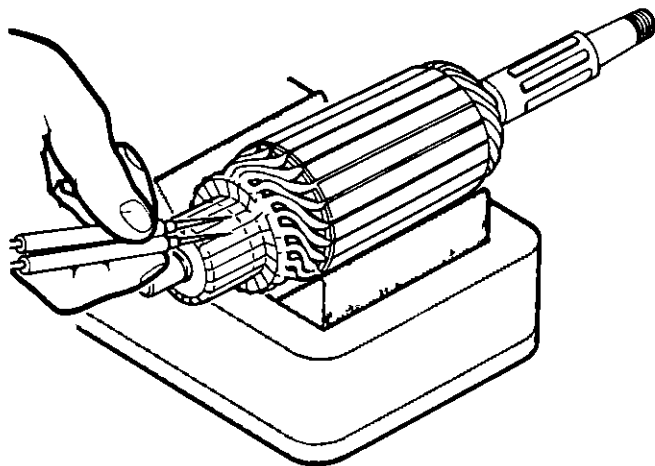

Figure 53. Armature Balance Test.
- A Place armature in growler jaws and turn power switch to GROWLER position. Figure 53